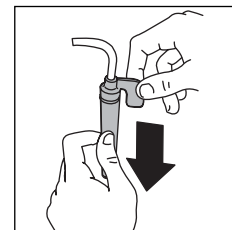

fig. 21
3. Remove the nozzle from the steam tube by pulling it downwards (fig. 21). **Note: Metal of steam pipe may be hot!!!**